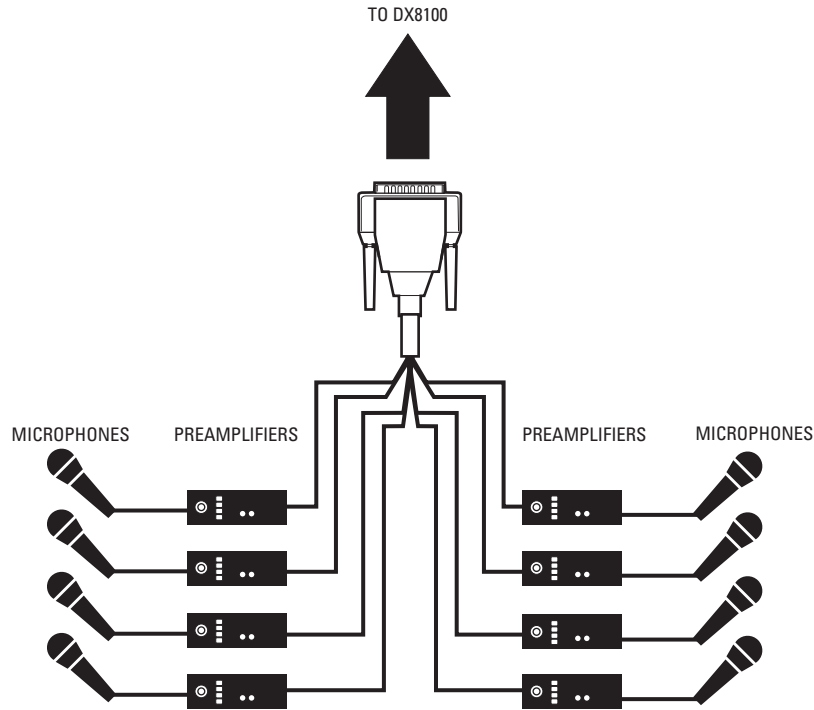

Figure 62. Sample 8-Audio Input Cable Configuration
2. Connect each of the 8 or 16 RCA-type audio connectors to a line-level (+4 dB) gain audio source. Refer to Figure 62.